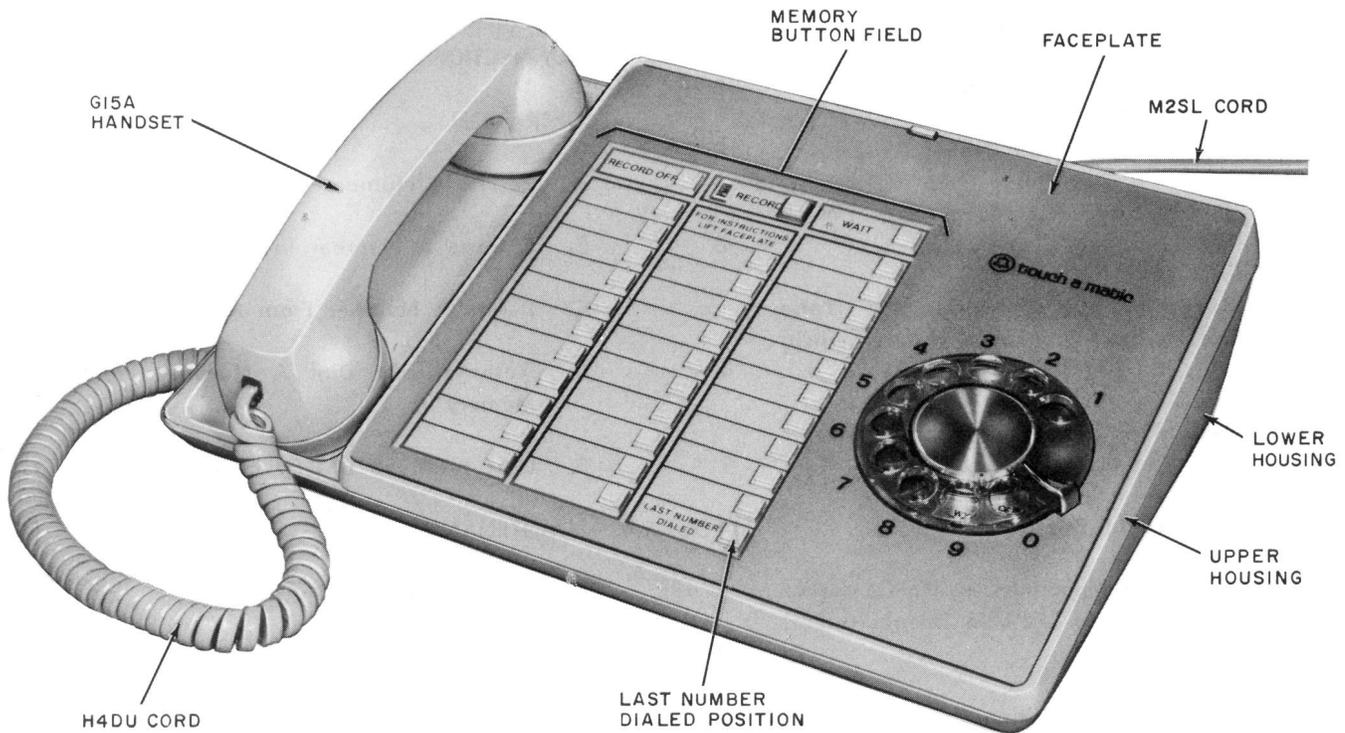

Fig. 1—870A2M Telephone Set
1.01 This section contains information for the 870A1M (MD) or 870A2M telephone set (Fig. 1).